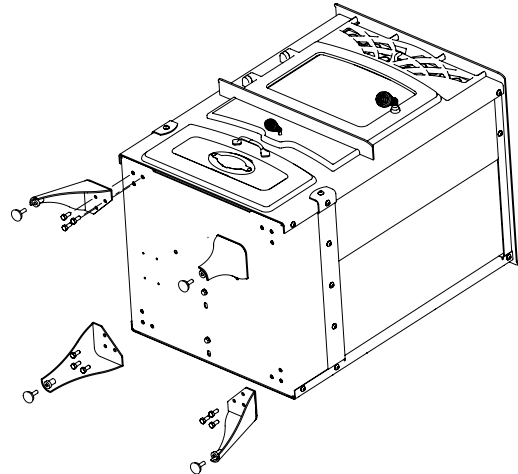

Figure 4: Leg Assembly
- Assemble the legs using provided (12) leg bolts as shown in figure 4.